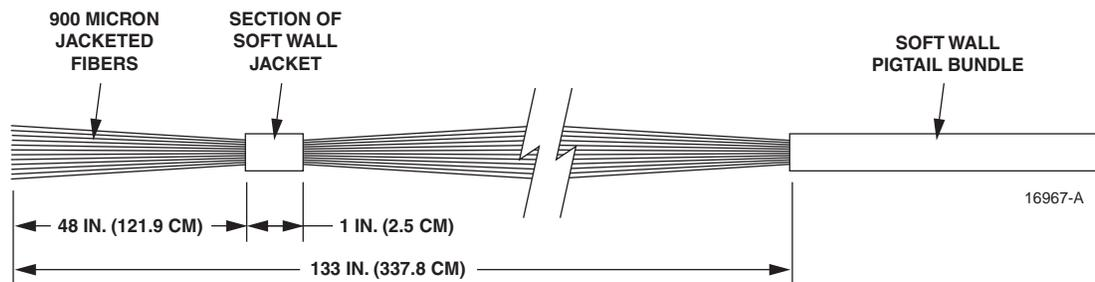
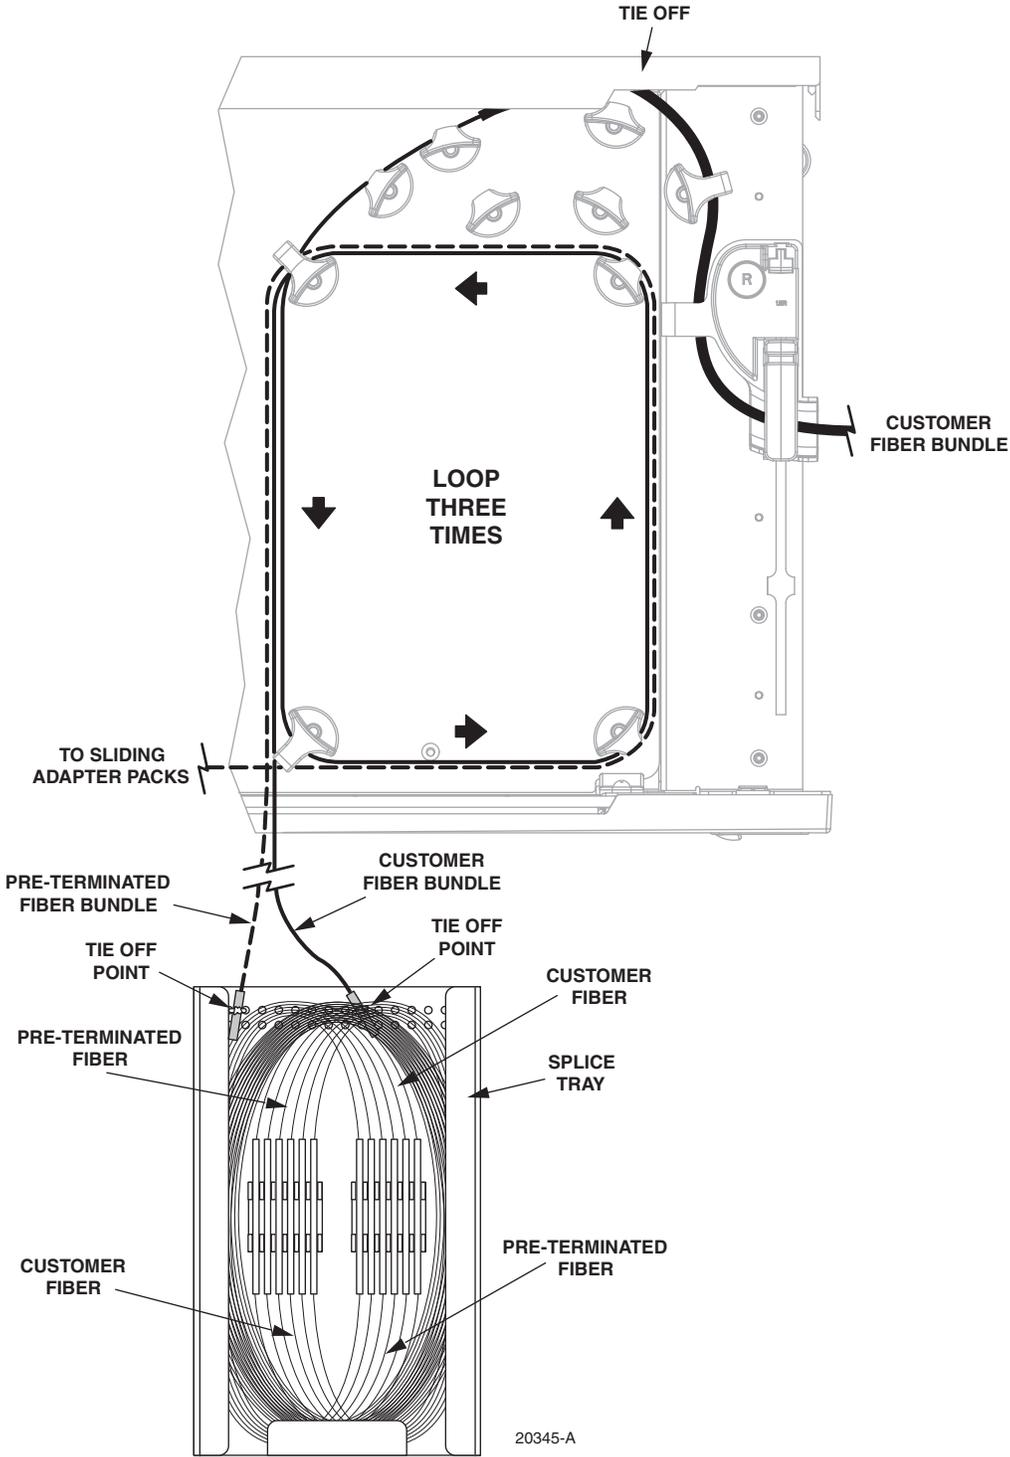

Figure 15. 12-Position Termination and Splice Tray Breakout Dimensions
Figure 17. Cable Routing for 12-Position Termination and Splice Tray, Step 3
1. Break out the cable corresponding to the dimensions provided in Figure 15.
3. Loop the cables three times around the radius limiters as shown in Figure 17.
► **Note:** Tie off the cable at the tie off point shown in Figure 17, using a one-inch section of soft wall jacket per the breakout dimensions shown in Figure 15.